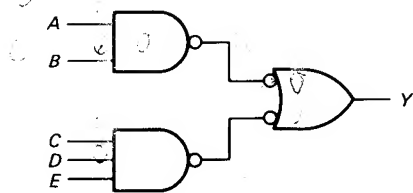

Fig. 3-33
- 3-23. What is the output in Fig. 3-33 if all inputs are low? If they are all high?
- 3-24. How many words are in the truth table of Fig. 3-33? What does Y equal for each of the following: